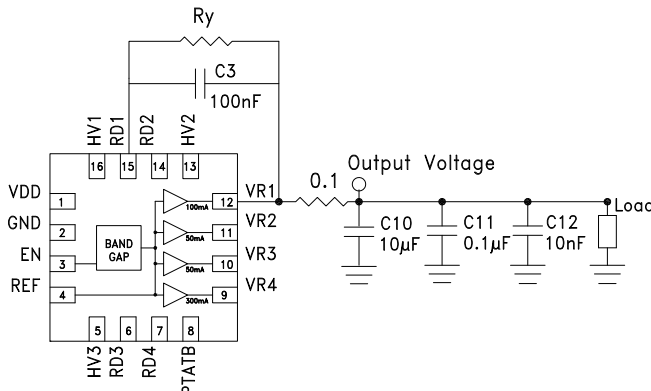

Figure 13. Recommended HMC1060LP3E configuration for supplying output voltage values less than default. [1]
The outputs of the HMC1060LP3E are configured to supply voltages less than the default values, down to 1.8 V minimum, by connecting a resistance (R_y in Figure 13) between pins VR_x and RD_x (where $x = 1,2,3,4$). Figure 13 shows an example of configuring VR1 output. Other outputs are configured in exactly the same way (ie. R_y is added between VR2 & RD2, VR3 & RD3 and between VR4 & RD4).
- To set VR1 = VR2 = VR3 = 1.8 V in with PTAT Mode disabled, external resistance Ry = 21 kΩ shown in Figure 13 is required.